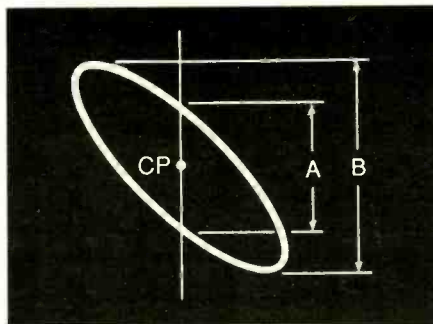

Fig. 9. Lissajous patterns for a pure capacitive reactance (A) and a pure resistance (B).
Two special cases are shown in Fig. 9. If pure capacitive reactance is being tested, a perfect circle will be displayed, as in (A), provided the vertical and horizontal gain controls have suitable relative settings. If a pure resistance is being tested, a straight oblique line will be displayed, as in (B).